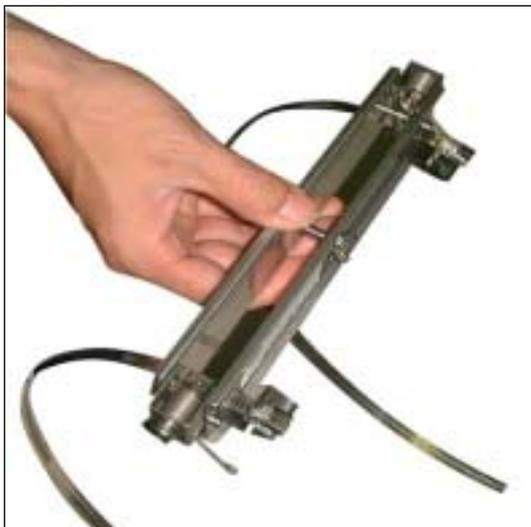

Fig. 3-4
(3) Make sure the obtained status is as shown in Fig. 3-4.